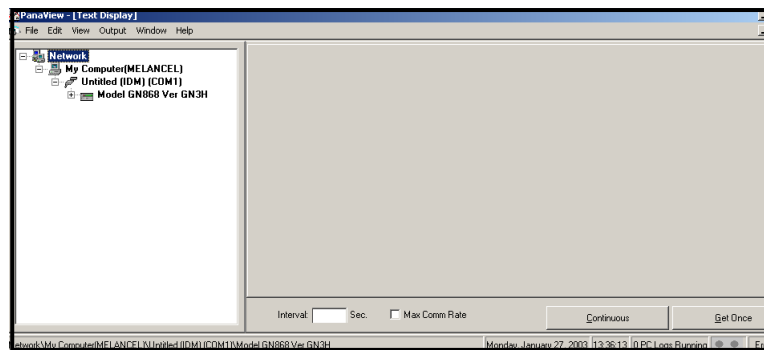

Figure 3: Text Display Window
3. Using the *Window* menu, arrange the open windows in the desired format. For this discussion, Figure 3 shows the *Text Display* window in its maximized (full-screen) size.
Note: Figure 3 has been compressed both vertically and horizontally for improved clarity.
5. Before actual data values can be displayed in the text pane, activate one of the following data collection modes (see Figure 3 on page 4):